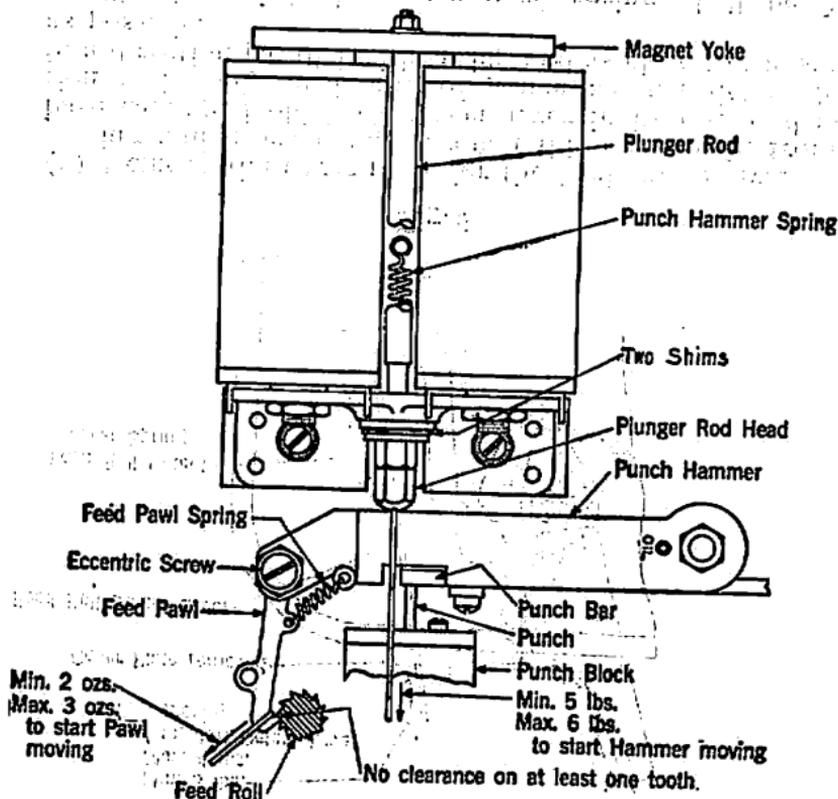

Fig. 8
- (a) The feed pawl shall advance feed roll one full step (1/12 of a turn) each time the punch hammer is released from the position where the punch bars are just touching the punches in the punch block. See Fig. 8.
(1) Gauge by eye.
(2) To adjust, first set feed pawl eccentric screw so that the pawl is in its most forward position. Then turn eccentric screw until feed pawl will just meet requirements.
3.16 Tension of feed pawl spring shall be Min. 2 ozs., Max. 3 ozs. when the feed pawl is resting normally against feed roll, measured at notch of pawl and in a direction parallel with spring. See Fig. 8.
(a) Apply gauge to punch hammer just above the plunger rod head and in a line parallel with the spring. See Fig. 8.